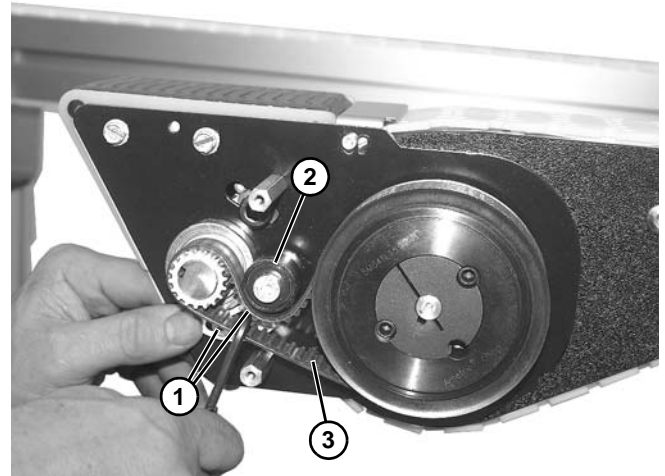

Figure 142
2. Loosen two socket head screws (**Figure 142, item 1**) holding tensioning pulley (**Figure 142, item 2**) onto timing belt (**Figure 142, item 3**).
3. Remove timing belt (**Figure 142, item 3**) from assembly.